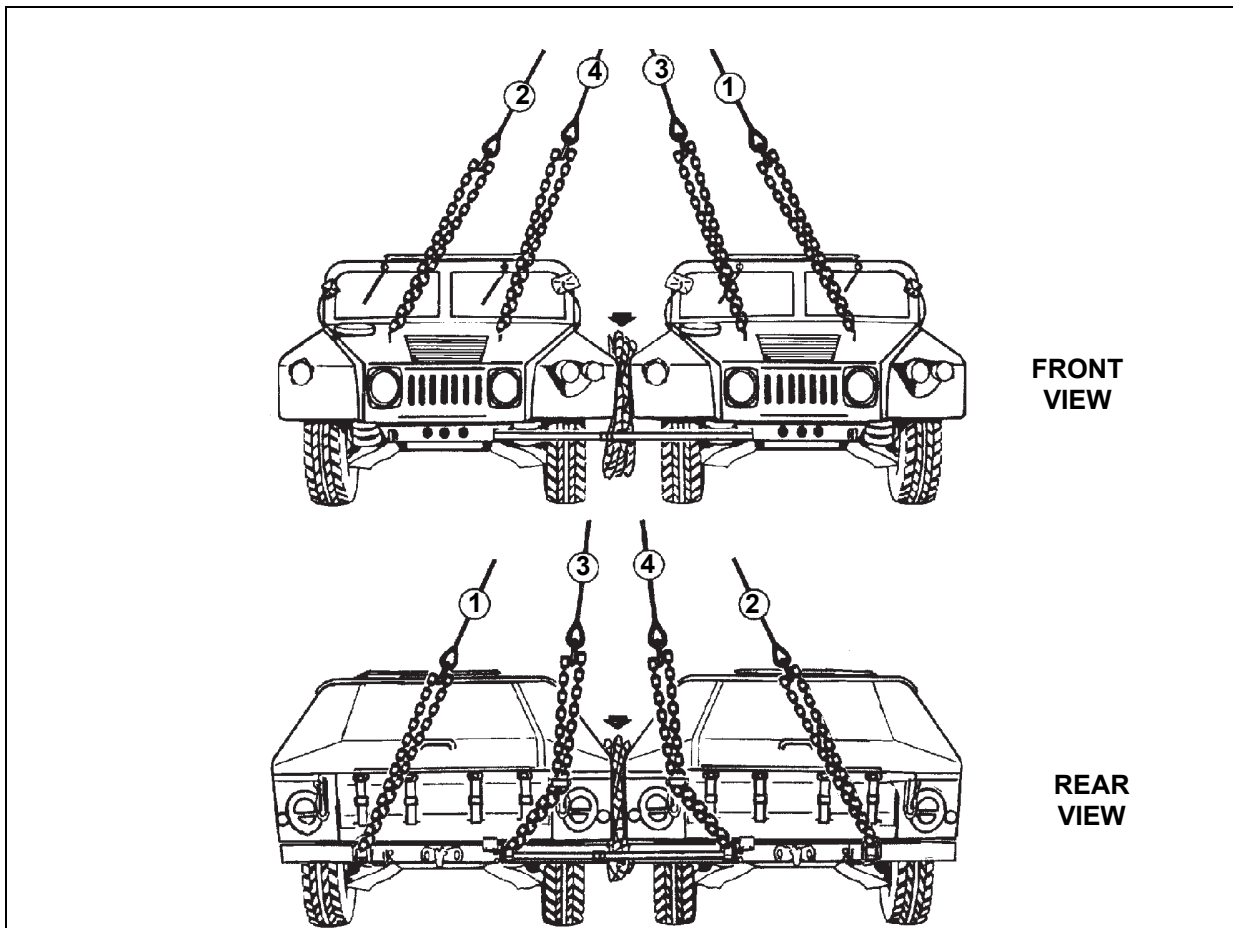

Figure 6-15. Side-by-Side (Shotgun) Load
- Some loads can be carried in the side-by-side (shotgun method) configuration. Side-by-side loads require an additional sling set (figure 6-15). One sling set is used on the front of the load and the other sling set is used on the rear of the load.